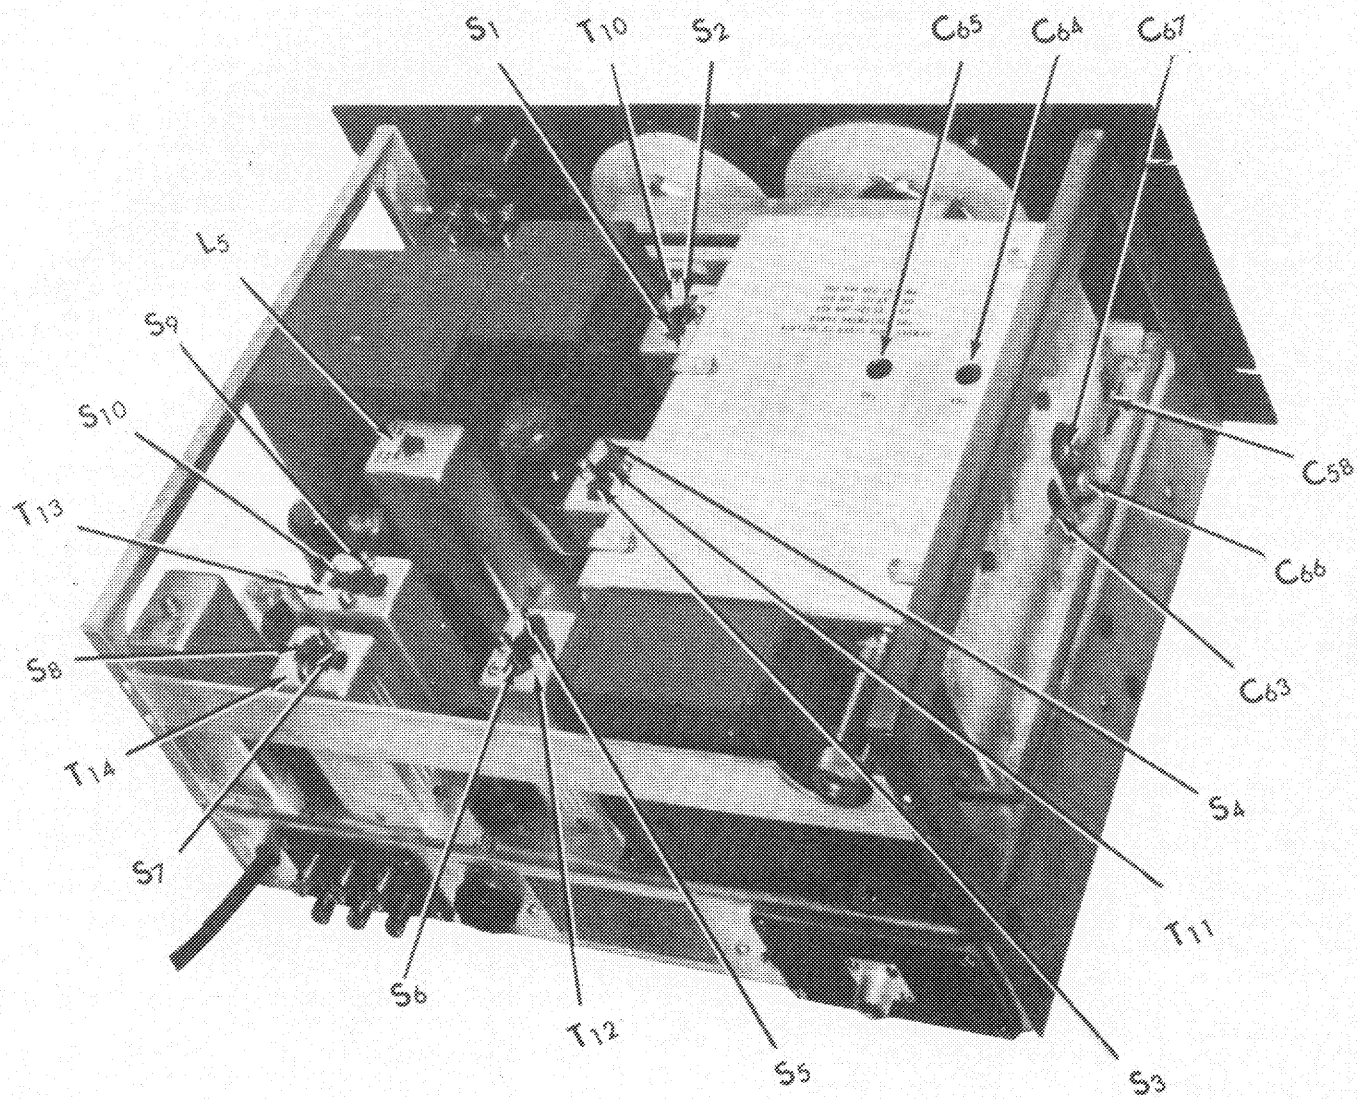

Figure 8. Radio Receiver CHL-46298, Top View Showing Alignment Points
(3) Set the signal generator frequency at 5.25 MC. and with the 400 cycle modulation turned on, align transformer T₁₀, T₁₁, T₁₂ and T₁₃ by adjusting the slug adjustment screws S₁, S₂, S₃, S₄, S₅, S₆, S₉ and S₁₀. Refer to figure 8 for location of these adjustment screws. A bakelite screw driver with a metal or insulated tip is necessary for accurate alignment.
(4) Repeat the alignment procedure at least once to insure an accurate alignment.
(5) The discriminator transformer T₁₄, is aligned as follows:
d. R-F ALIGNMENT. - Refer to figure 8 for location of alignment controls.
(1) Connect the signal generator to plug CN-49121 and wire the dummy antenna resistor (50 ohm noninductive resistor) in series with the generator terminals. Connect the output meter to the speaker terminals.
(2) Set the controls on the receiver as for i-f amplifier alignment. Refer to paragraph D-3. b. (2).
(3) Turn on 400 cycle tone modulation on the signal generator.
(4) Align the three bands as follows: